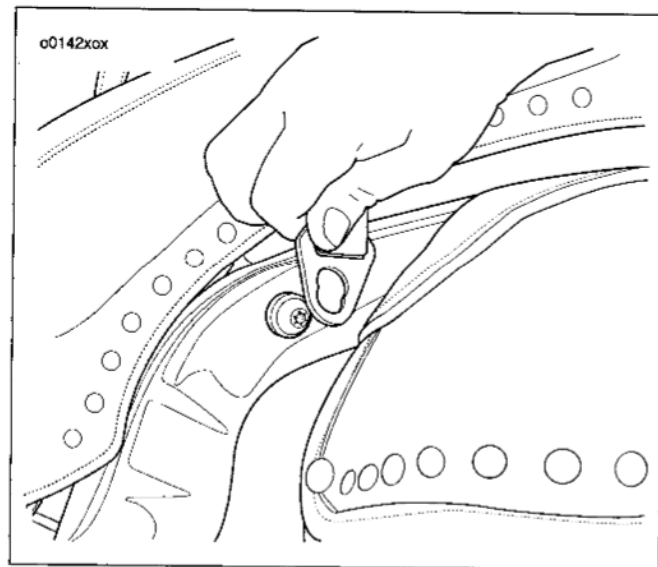

**Figure 49. Strap Bracket**
3. See Figure 49. Locate the seat strap bracket (Item no. 7) on the LEFT side of the motorcycle.
9. See Figure 49. Pull up on seat to verify that it is properly secured.